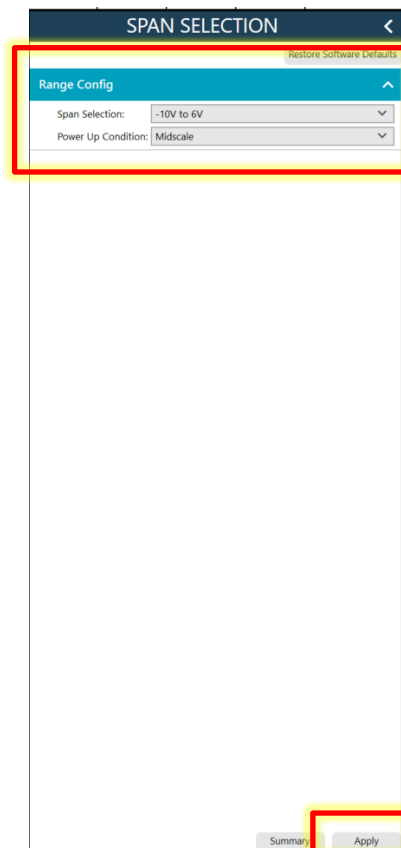

Figure 18 Span Selection
3. On the Span Selection > Range Config (as shown in Figure 18 Span Selection) set:
2. On the “Span Selection” > Range Config similar to Figure 18. Span Selection set: